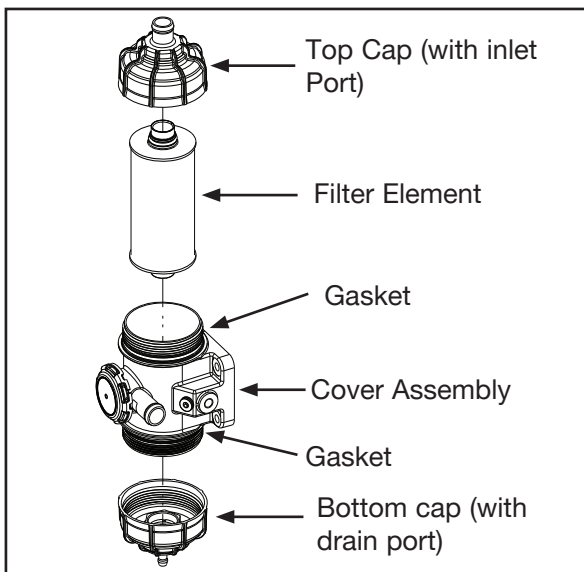

Figure 5: Exploded view of the CV filter housing (coolant ports included not shown)
1. Ensure that the CV unit is assembled, and the twist caps are tightly secure. If it is not assembled, use figure 5 to assemble it by starting with the bottom cap and place each following part, tightening each cover to the housing. Tighten the bolts securely to ensure that the CV unit remains in place.